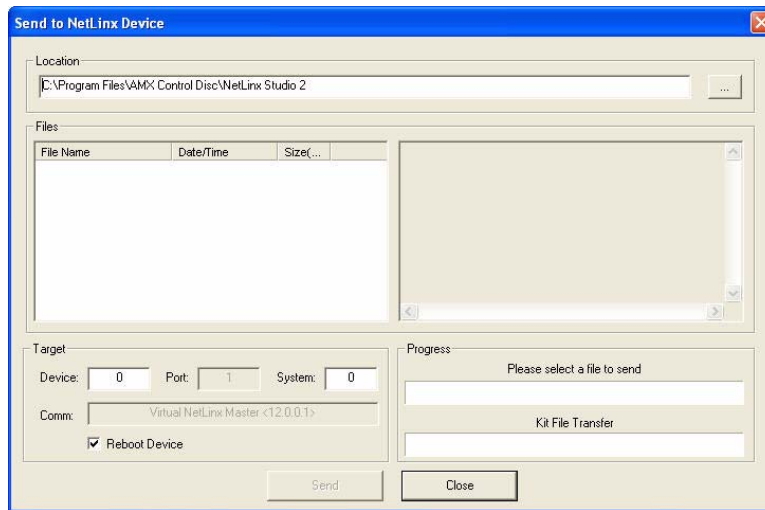

FIG. 77 Send to NetLinx Device window
- From the main menu, select **Tools > Firmware Transfers > Send To NetLinx Device...** to open the *Send to NetLinx Device* window (FIG. 77).